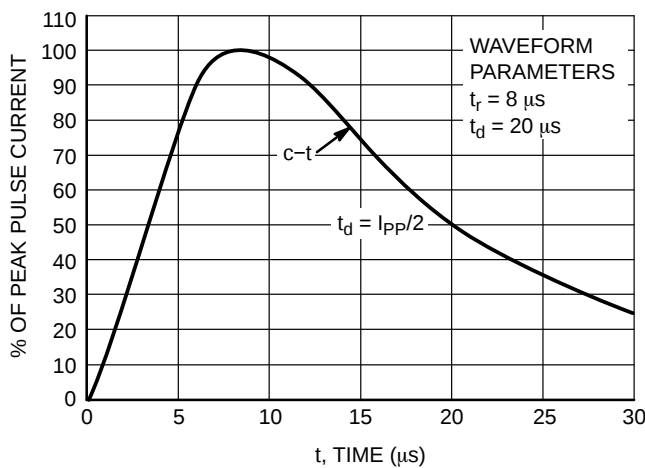

Figure 1. Pulse Waveform, 8 x 20 μs
1. Non-repetitive current pulse per Figure 1.
- Pulse waveform per Figure 1.